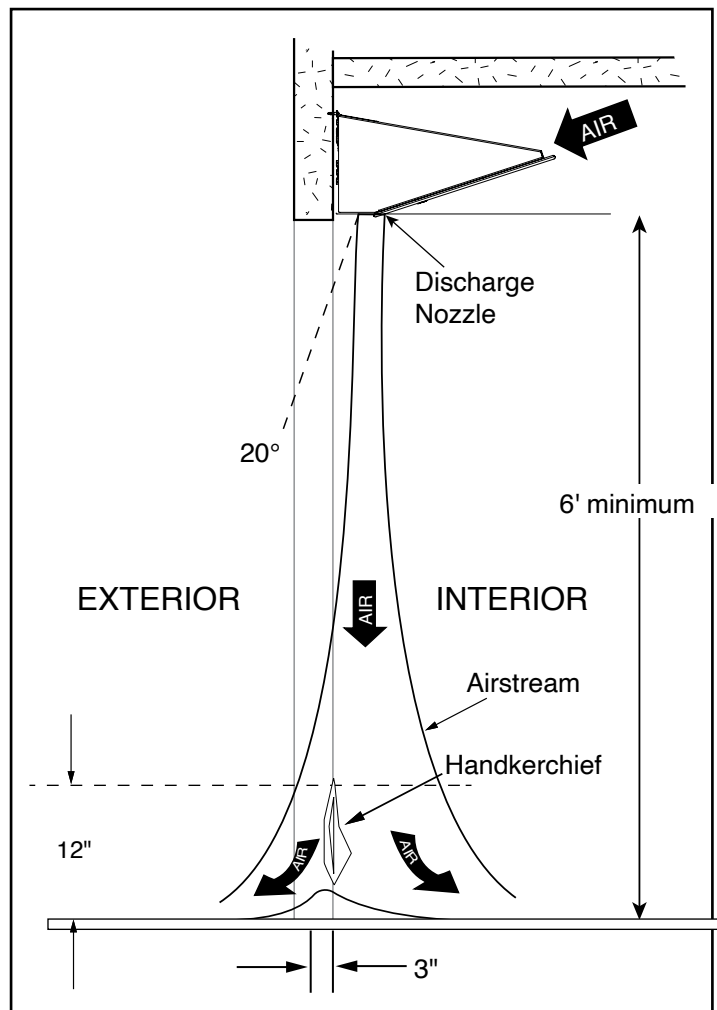

Figure 9 - Air Stream Adjustment
2. Find the air stream split location. Hold a handkerchief by its corners, approximately 12" above the floor. Gently move the handkerchief back and forth in the doorway. Make sure the air is being directed to both the inside and the outside. **See Figure 9.** The split location is indicated where the handkerchief is vertical with minimal or no fluttering.